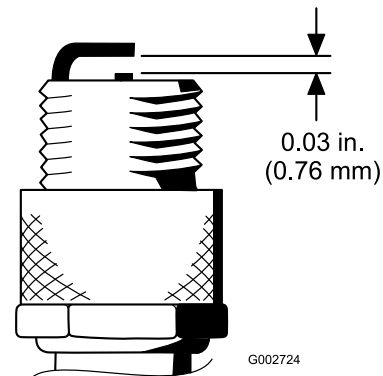

Figure 32
4. Set the air gap between the center and side of the electrodes at 0.76 mm (0.030 inch) as shown in Figure 32.